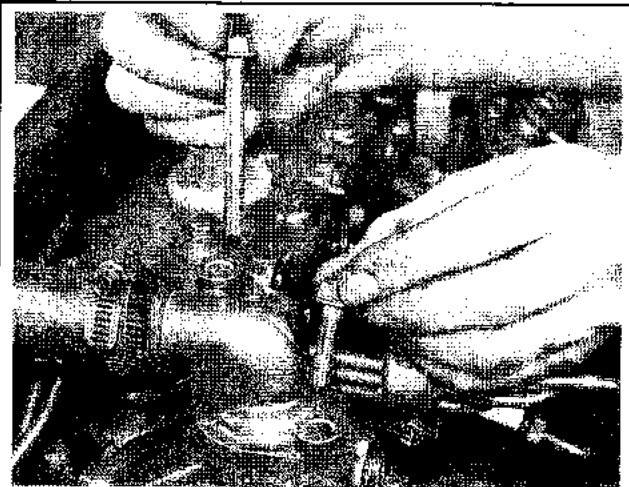

Fig. 57 After the hose clamp is loosened, remove the two bolts that attach the water outlet
▶ See Figures 57, 58, 59, 60 and 61